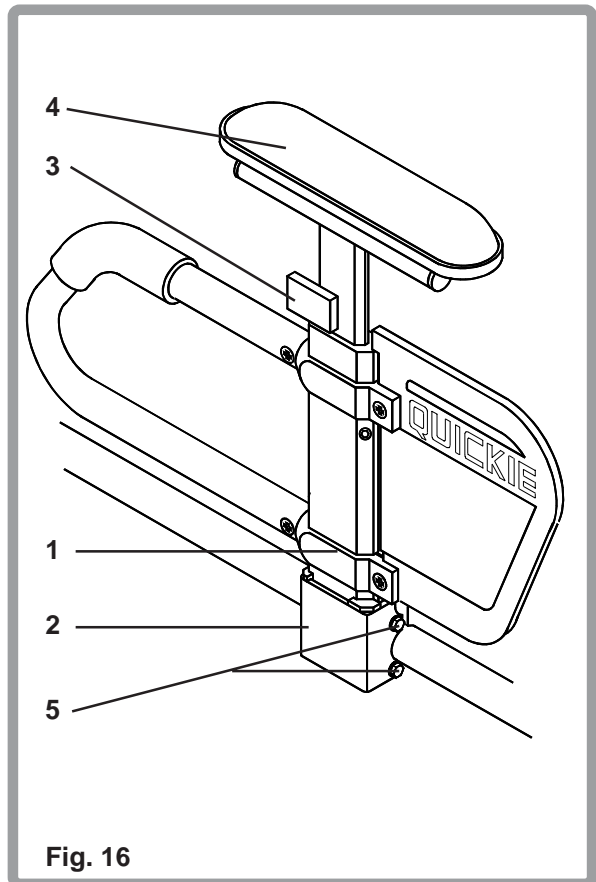

Fig. 16
To install armrests, slide the outer arm post (1) into the receiver (2). The armrest will automatically lock in place (Fig. 16).
To detach the armrest, rotate the release lever to the first stop and remove the armrest (Fig. 16C). To replace the armrest, slide the armrest back into the receiver (2) and return the release lever to the locked position (Fig.16).
The armrest can be adjusted to remove free play in the receiver and inner arm post (Fig. 16). To tighten or loosen the fit of the outer post in the receiver, first loosen the four 10mm A/F bolts (5) two on each side of the receiver. With the armrest in the receiver, squeeze the receiver to achieve the desired fit, then tighten the four bolts. To adjust the fit of the inner arm post, two set screws (6) are installed in the outer arm post (Fig 16D). Turn the set screws in or out until the desired fit is achieved using a 3/32" Allen key.